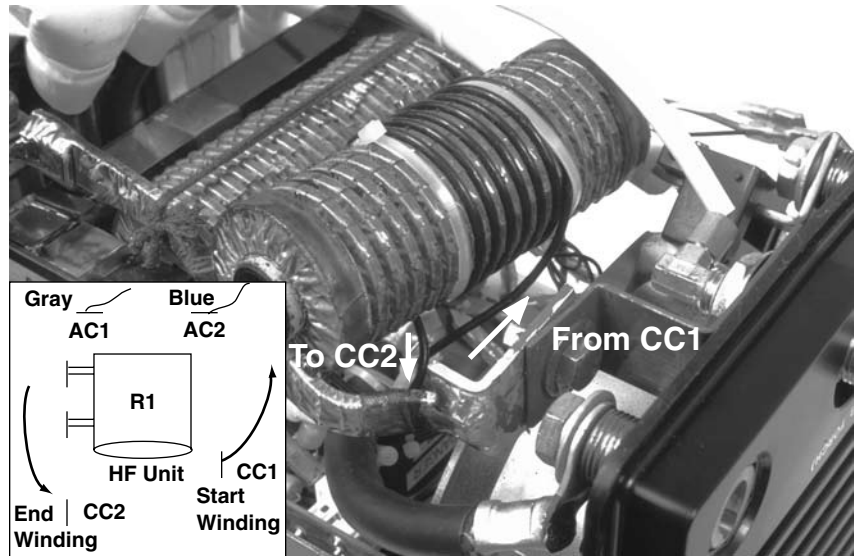

Figure 51. HF coupling coil winding onto Output Inductor Assembly
2. Referring to figure 51, wind six (6) full turns onto the Output Inductor Assembly in the direction shown in figure 51 (counter clockwise as you look at the Output Inductor Assembly from the right side of the unit).